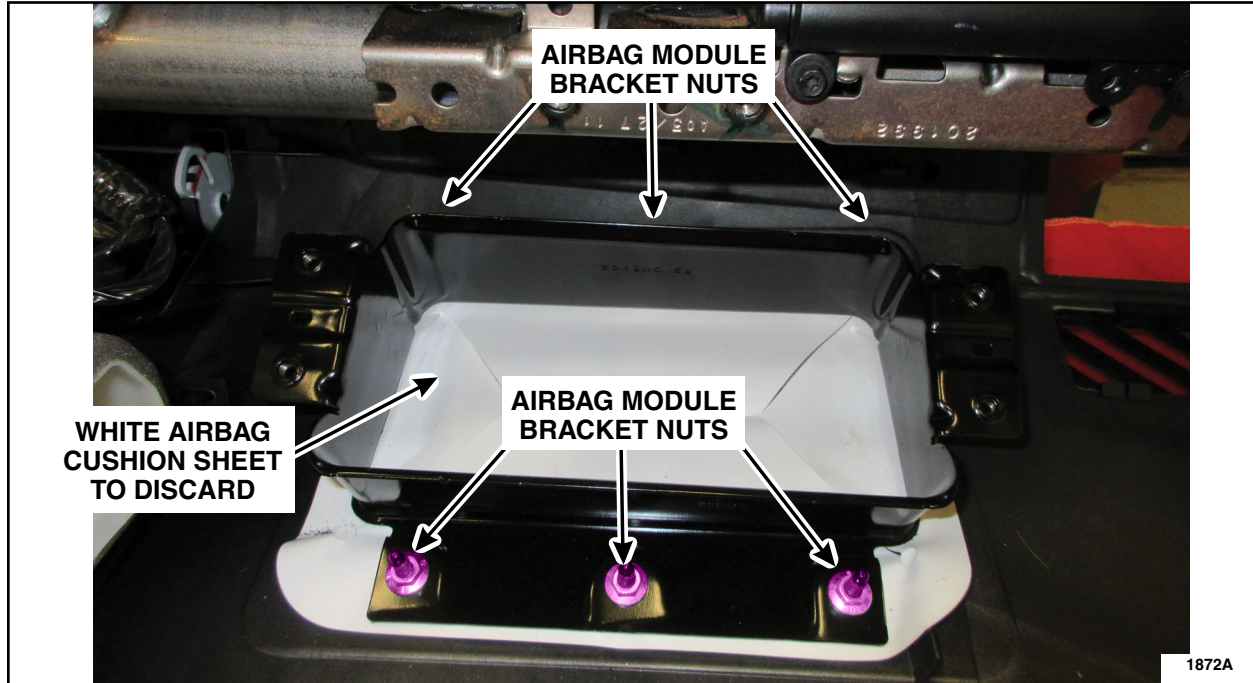

FIGURE 8
6. If a white airbag cushion sheet has been installed previously, remove the bracket from the instrument panel and discard the sheet. See Figure 8.
7. Reinstall the airbag module bracket onto the instrument panel. See Figure 8.